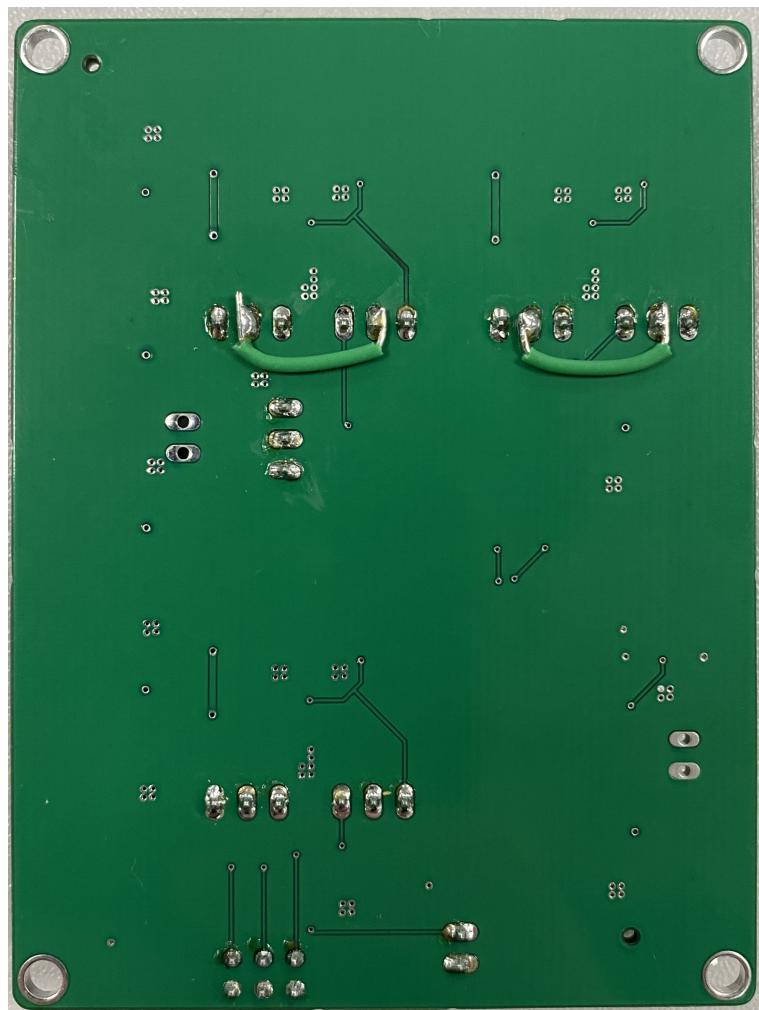

Figure 3: Image showing MODE/SYNC modification on PSU PCB. NOTE: if using the 5V SMPS, this should also be modded
- The MODE/SYNC on each SMPS pin should be connected to the SMPS enable signal. This forces MODE/SYNC = 0 when output is off and 1 when on - gives the best of both low noise when on and low power consumption when off. See Figure 3 for an image of the modification.